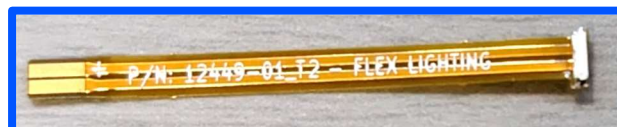

Figure 15. Azumo LCD 2.0 FLP LED FPC
1. The LED flexible printed circuit (FPC) is a simple flexible circuit with a single LED soldered to its end as shown in Fig. 15. Extreme care should be employed when handling the LED FPC as excessive pulling, bending, or twisting can cause the FPC to become detached from the lightbar.